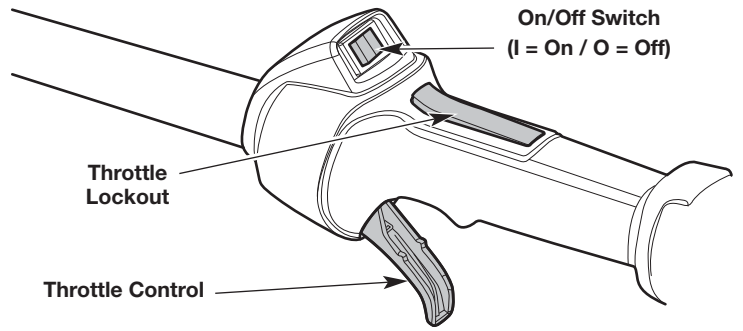

Fig. 7
NOTE: There is no need to turn the unit on. The On/Off switch is in the **On (I)** position at all times (Fig. 7).
NOTE: DO NOT squeeze the throttle control until step 8 (Fig. 7).
8. Press and hold the throttle lockout (Fig. 7). Squeeze the throttle control as needed for operation (Fig. 7).
2. Press and hold the On/Off switch in the **Off (O)** position until the engine comes to a complete stop (Fig. 7).
NOTE: There is no need to turn the unit on. The On/Off switch is in the ON (I) position at all times (Fig. 7).
NOTE: DO NOT squeeze the throttle control until step 10 (Fig. 7).
10. Press and hold the throttle lockout (Fig. 7). Squeeze the throttle control as needed for operation (Fig. 7).
2. Press and hold the On/Off switch in the OFF (O) position until the engine comes to a complete stop (Fig. 7).